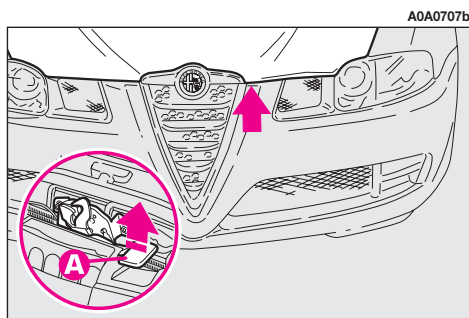

fig. 147
- press the safety lever (**A-fig. 147**) upwards.